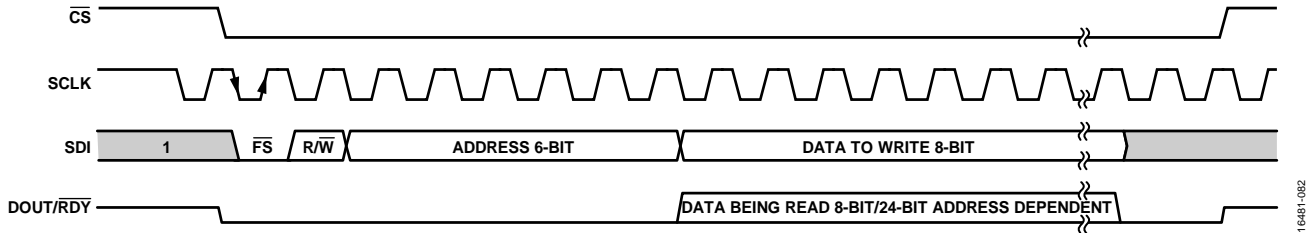

Figure 83. SPI Basic Read/Write Frame
The format of the SPI read or write is shown in Figure 83. The MSB is the first bit in both read and write operations. An active low frame start signal ($\overline{\text{FS}}$) begins the transaction, followed by the R/W bit that determines if the transaction being carried out is to a read (1) or a write (0). The next six bits are used for the address, and the eight bits of data to be written follow. All registers in the AD7768-1 are 8 bits in width, except for the ADC_DATA register (Register 0x2C), which is 24 bits in width. In the case where $\overline{\text{CS}}$ is tied low, the last SCLK rising edge completes the SPI transaction and resets the interface. When reading back data with $\overline{\text{CS}}$ held low, it is recommended that SDI idle high to prevent an accidental reset of the device where SCLK is free running (see the Reset section).